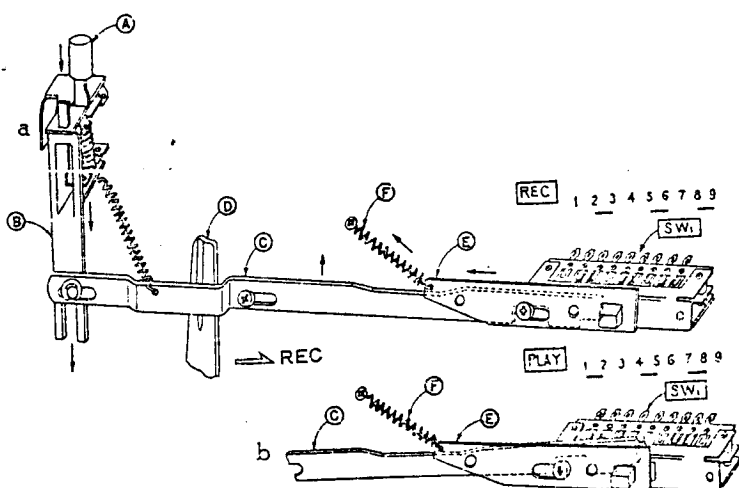

Fig. 10
By pushing SOUND-ON-SOUND BUTTON (A) while the recorder is set to recording condition, LEVER (D) is depressed and LEVER (C) is lifted through LEVER (B). Refer to Fig. 10-a.
As a result, LEVER (C) is released from stopper of SW-1 and SW-1 is reset to play condition as LEVER (E) is pulled by SPRING (F). Refer to Fig. 10-b.